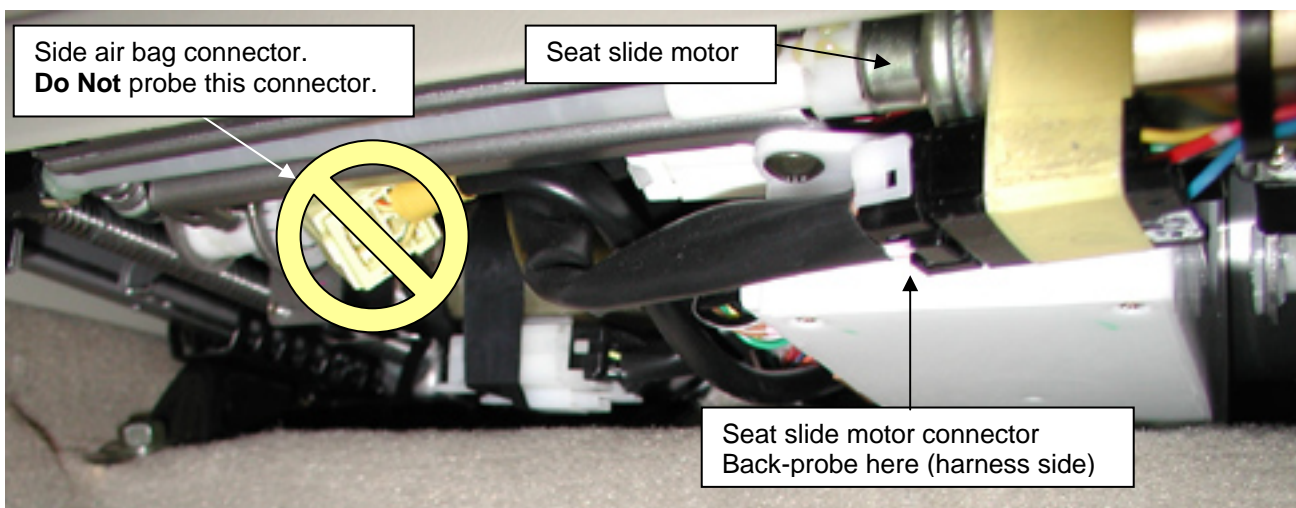
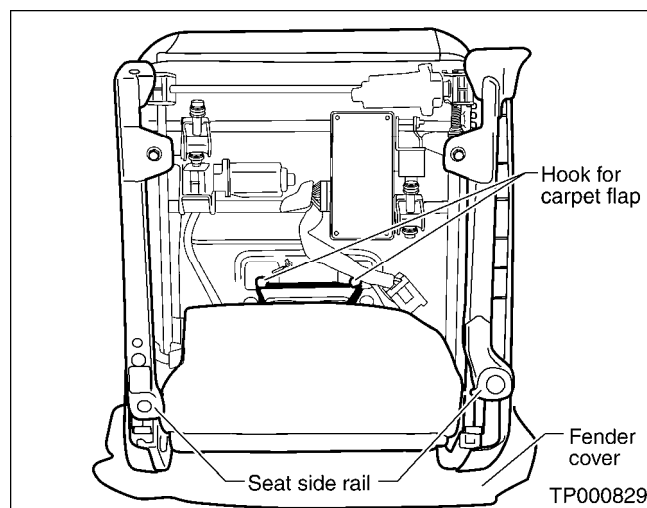

Figure 2
Figure 3
- See Figure 2. For more detailed information, refer to "Power Seat" or “Automatic Drive Positioner" in the EL section of the appropriate Service Manual (ESM).
4. Lightly tap the seat slide motor (see Figure 2 on page 2). Sometimes this will get the motor working again temporarily so the seat can be moved to access the seat mounting bolts.
8. **Disconnect the battery negative cable and wait three (3) minutes.** This will allow the Supplemental Restraint System (SRS), which includes the front seat side air bags, to deactivate.
11. Unhook the carpet flap from the underside of the seat bottom (see Figure 3).
29. Re-hook the strap to attach the carpet flap onto the bottom of the seat (refer to Figure 3 if needed).